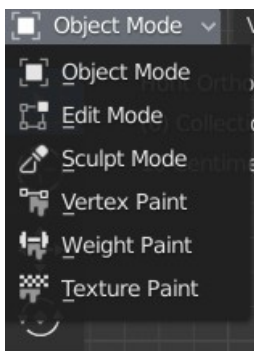

Figure 8
- **Object Modes** are an object-oriented feature, which means that the available modes vary depending on the selected active object’s type – most of them only enable the default Object Mode (like cameras, lights, etc.). The default mode, available for all object types, as it is dedicated to Object data-block editing (e.g. position, rotation, size), is the **Object** mode (**Fig. 8**). The **Edit** mode is dedicated to the “shape” of the objects. While in edit mode the structural parts of an object are visible (vertices/edges/faces for meshes, etc.). Select the ones you want to be visible and to edit by clicking on the respective icon (**Fig. 9**) or by pressing **1** (for vertices), **2** (for edges), or **3** (for faces) on your keyboard.